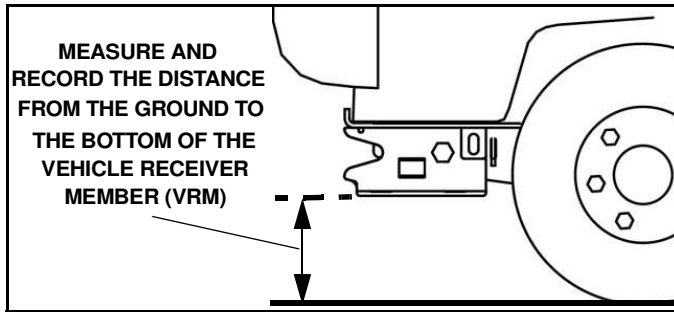

Figure 1-10
11. With the truck parked on a flat level surface, measure and record the distance from the ground to the bottom of the Vehicle Receiver Member (VRM). (See Figure 1-10).